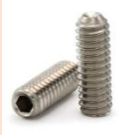

Fig. 3.14: Flat Head Cap Screws
- The head is flat and countersunk, allowing the screw to sit flush with the surface (Fig.3.14).